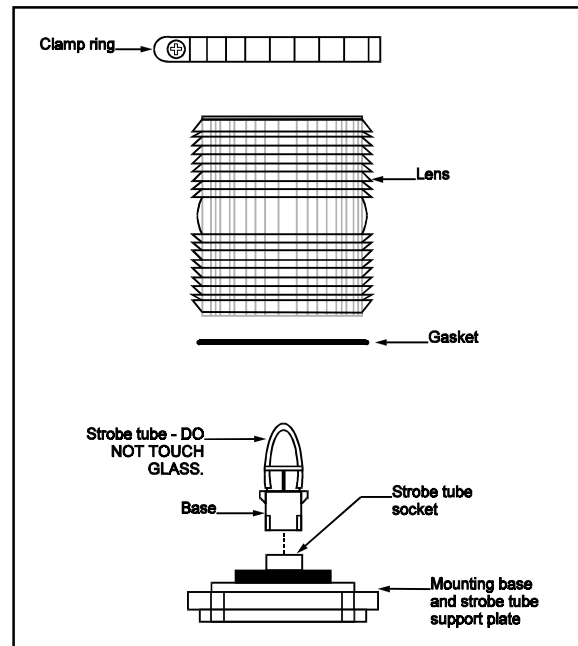

Figure 2. Strobe Tube Replacement
1. Refer to Figure 2. Remove the screw in the clamp ring, remove ring, and set aside. Carefully lift the lens straight up and off the signal mounting base, being careful not to damage the strobe tube or lens gasket. If the lens adheres to the gasket on the signal base *do not* force apart by hand but carefully pry the lens off using a thin blade screwdriver.